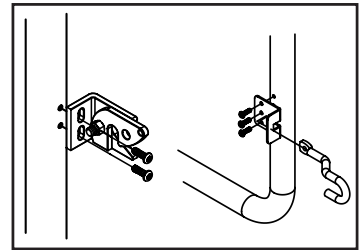

FIG. 2
- c.) Install the latch catch assembly into the opposite corner post with the provided 1/4" -20 x 3/4" Torx screws using the T-30 Torx bit and drill. (Fig. 2, left side)
- d.) Screw the hook into the U bent gate piece using the 1/4"-20 x 3/4" Torx screws. (Fig. 2, right side)